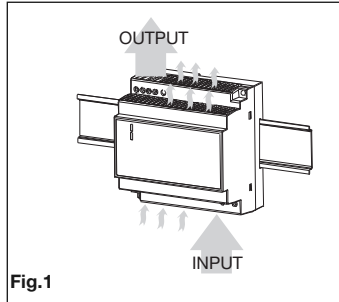

Fig.1
**Leave sufficient space** around the unit for cooling! (See Fig. 1)
Permissible mounting position: see Fig. 1 keep free ventilation hole, leave space for cooling!